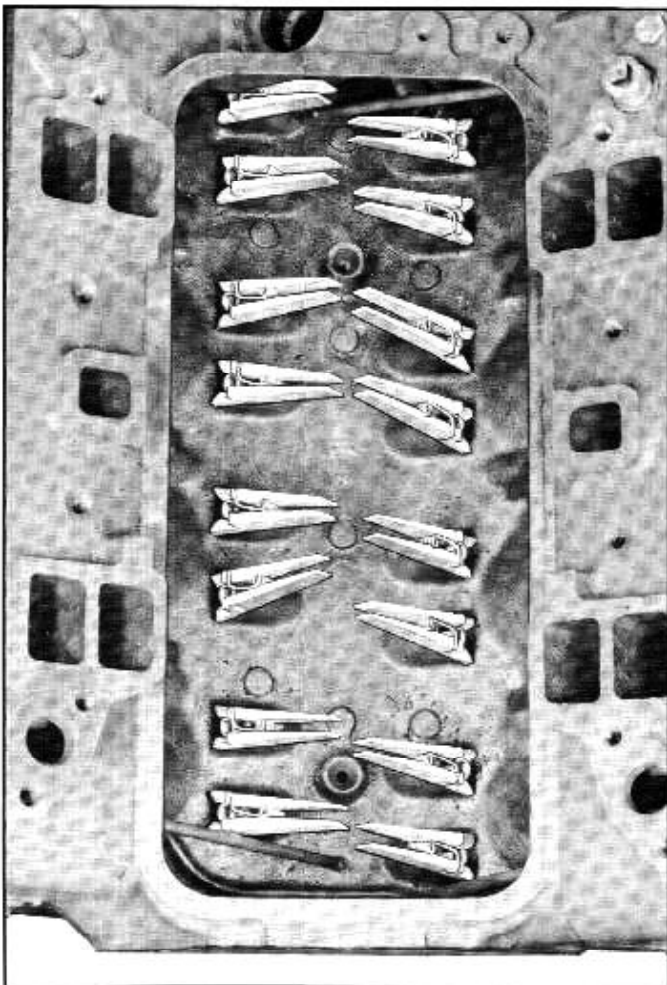

Fig. 6A-26—Retaining Valve Tappets with Clothes Pins
25. Lift the respective valve tappets with a magnet and support each in its "up" position with a spring-type clothes pin. See figure 6A-26.